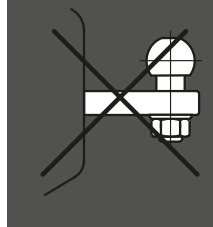

Figure 4 - Bolted in coupling
3. A bolted-in type ball coupling (Fig 4) is only permissible if the thread is locked or welded.